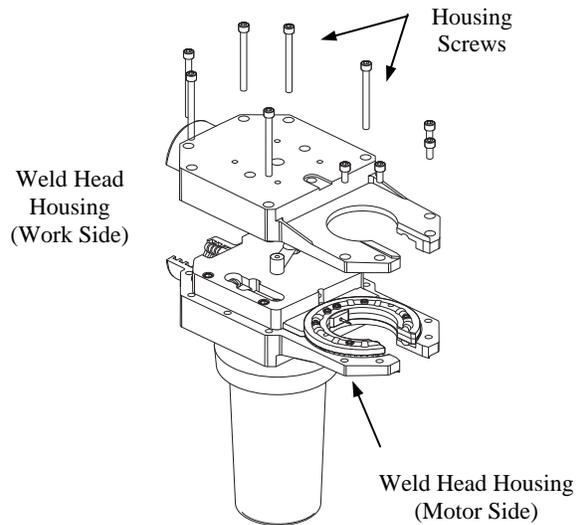

*Figure 25 Removing the Locking Ring and Locking Ring Plate*
2. Remove the four screws, locking ring, and locking ring plate. See Figure 25.